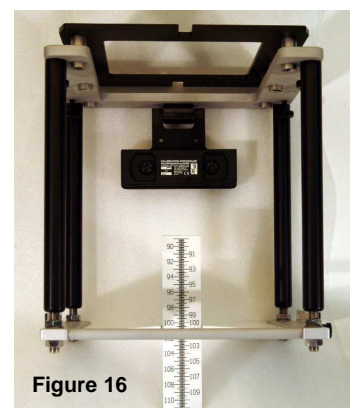

Figure 16
- Optical Distance Indicator Check:** Snap the ODI test scale onto Plate P1 (Figure 16). Insert Plate P1 into the rails at the bottom of the GARD as shown in Figure 16 so that the accelerator optical distance indicator scale is projected onto the GARD ODI test scale. If the ODI is correctly adjusted, the two scales will match in the range of indicated SSD (90 cm to 110 cm).